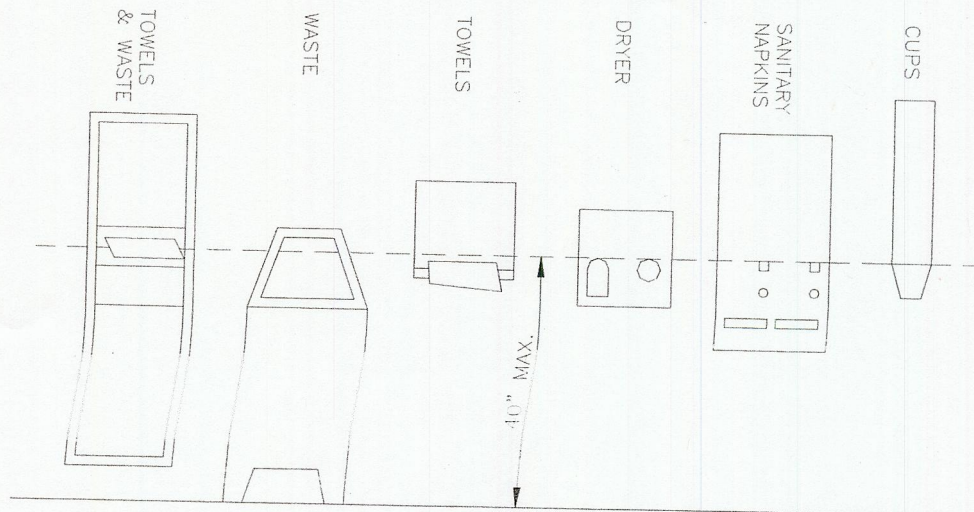

Fig.97
- _____ C. Mirror(s) is mounted with the bottom edge no higher than 40" from the floor. **1115B.9.1.2 4.19.6 Fig. 97**
- _____ D. Operable parts (including coin slots) of all fixtures or accessories are located a maximum of 40" above floor (i.e., soap dispensers, towels, toilet seat covers, auto-dryers, sanitary napkin dispensers, waste receptacles, etc.). **1115B.9.2 4.23.7 Fig. 97**